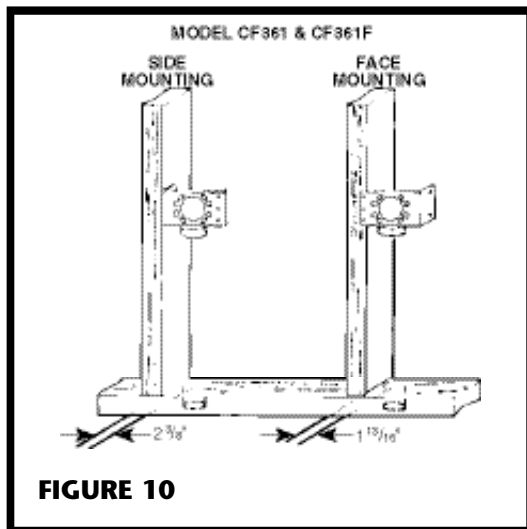

FIGURE 10
3. Refer to Figure 10. Nail bracket to side of stud so that front edge of bracket is flush to front of stud. (The bracket may also be nailed to the front edge of the stud. See face mounting illustrated. For face mounting, use locating tabs on bracket for proper alignment.)